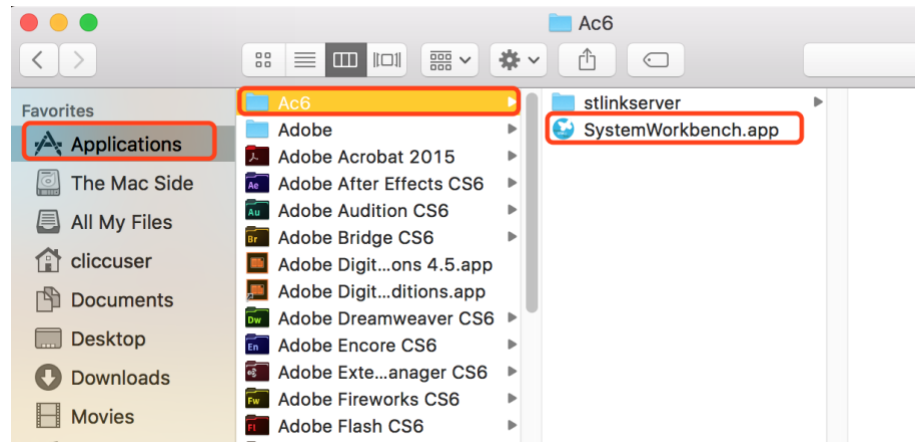

Figure 9: System WorkBench application location
14. Open your *Finder* and find the *System WorkBench* according to Figure 9 (*Applications->Ac6 -> SystemWorkBench*).